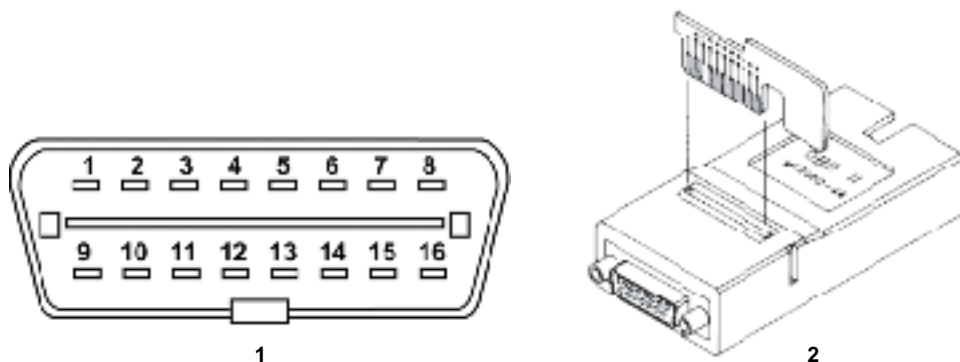

Figure 11-3 16-pin DLC and OBD-II adapter
- Use the OBD-II adapter with the specified Personality Key™ device (Figure 11-3).